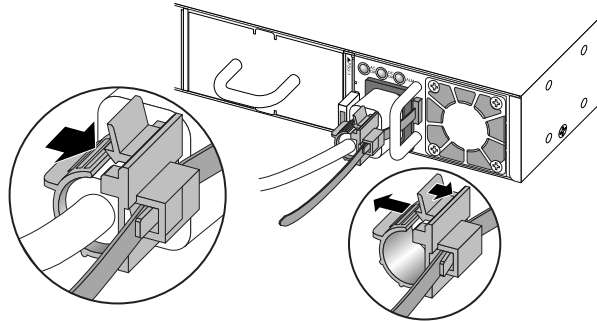

Figure 289: Attaching the Power Cord Retainer
- c. Open the clip and slip it over the barrel of the connector (see Figure 289).